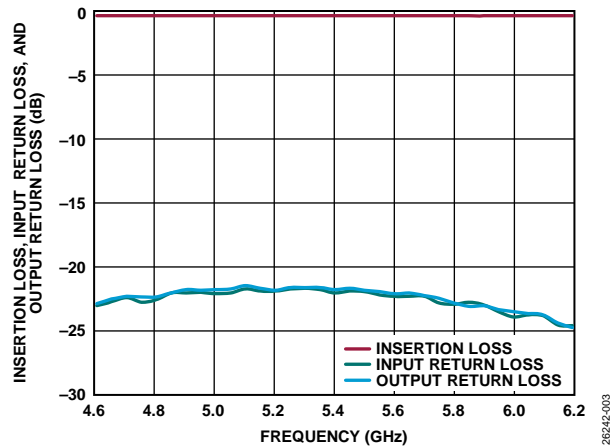

Figure 3. Insertion Loss, Input Return Loss, and Output Return Loss of Through Calibration Path vs. Frequency
To calibrate board trace losses, a through calibration path is provided between the J6 and J5 connectors. J6 and J5 must be populated with 2.92 mm (K) connectors to use the through calibration path. Figure 3 shows the insertion loss, input return loss, and output return loss of the through calibration path. Table 2 lists the insertion loss of the through calibration path vs. frequency.